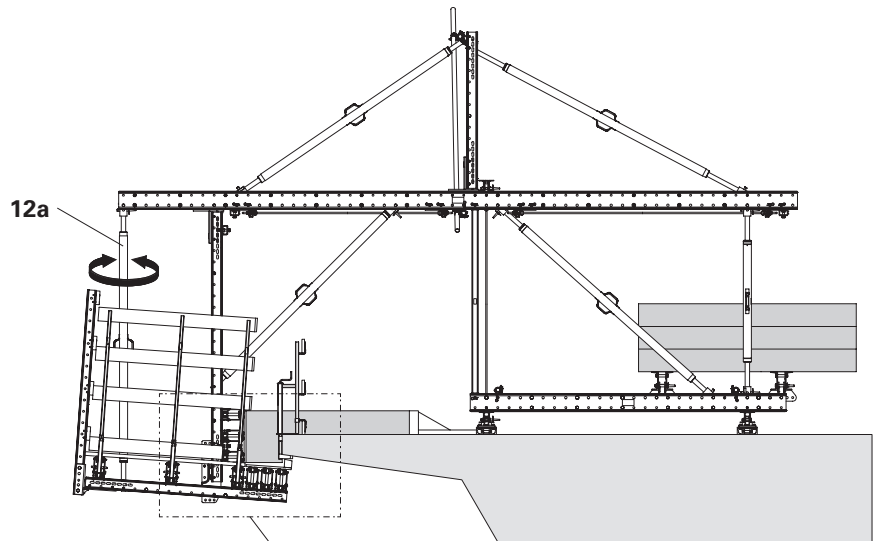

Fig. D3.01
Tilt the concreting platform until the rear formwork (46) pivots away from the concrete edge of the cantilevered parapet. (Fig. D3.01)